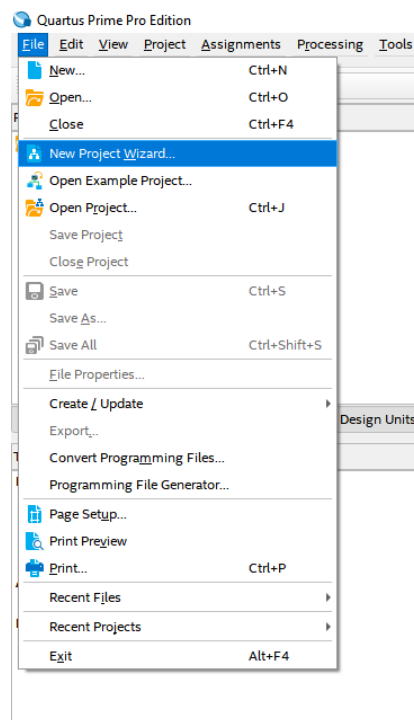

Figure 2-1 Start to Create a New Project
1. Launch Quartus Prime then select **File->New Project Wizard**, start to create a new project. See Figure 2-1.